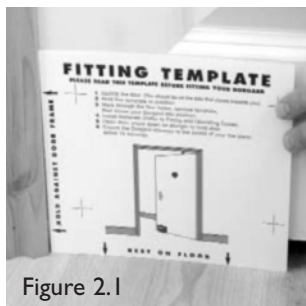

Figure 2.1
Follow Illustrations Fig 2.1 - 2.6 below.
- 1) Close the fire door. Place the template provided against the door on the side that shuts against the door frame. Ensure the template matches your view of the door. (Fig 2.1)